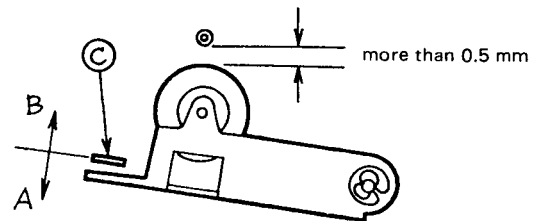
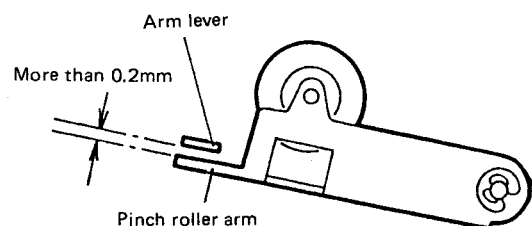

Fig. 26
Fig. 27
- a. Adjust the pinch arm lever to keep the clearance between the pinch roller and the capstan more than 0.5mm while depressing the PAUSE button. Bend the portion ③ of the pinch arm lever to the direction A in shorter clearance and the direction B in longer (Fig. 26).
- b. Adjust the pinch arm lever by bending the portion ③ to the direction A, if the rotation of reel disc is stopped or the cassette tape is pulled out from the cassette by the pinch roller rotation while depressing the PAUSE button in the playing mode (Fig. 26).
- a. Bend the portion ③ of the pinch arm lever to direction A if cassette tape is drawn out from the cassette on starting of the review operation. (Fig. 27)
- b. Bend the portion ③ of the pinch arm lever to the direction B, if the mechanism is made in fast forward mode on starting of the review operation. (Fig. 26)
- a. Bend the portion ③ of the pinch arm lever to the direction A, if the cassette tape is drawn out from the cassette on starting of the review operation.
- b. Bend the portion ③ of the pinch arm lever to the direction-B, if the mechanism is made in fast forward mode on starting of the cue operation.
- * Check that the clearance between the pinch roller arm and the pinch arm lever is more than 0.2mm, when depressing the REVIEW button in the recording mode (Fig. 27).